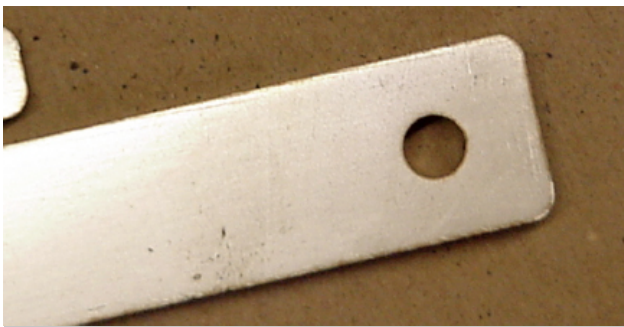

Fig. 6.11
- The laser automatically rounds off sharp corners. Inform the laser programmer if this is not required. The size of the radius is between 0.5 and 3 mm depending on the material thickness, contour type, type of gas and type of material. (Fig. 6.11)